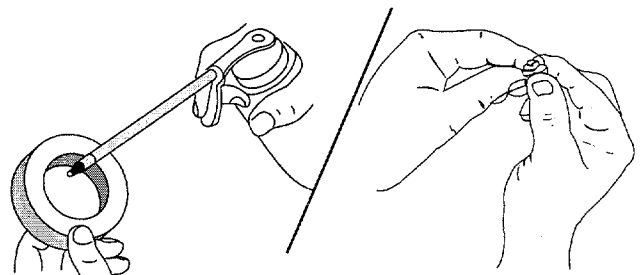

Figure 25
5. Apply enough clean SAE 30 oil to lightly coat the filter. See Figure 25.
6. Squeeze the filter to spread and remove excess oil. See Figure 25.